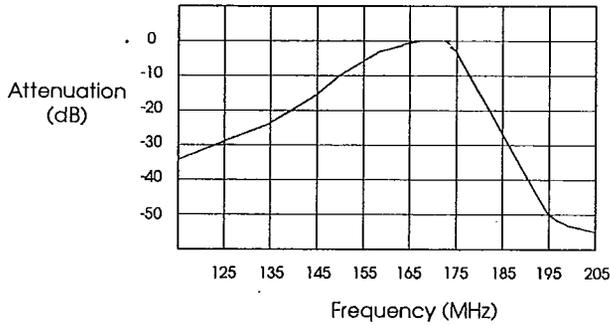

Figure 5 High-Band FILTER RESPONSE
3. Adjust the Trimmer caps in the two high band filters (C-182 and C-184) until the filter displays the desired response (as shown in Figure 5).